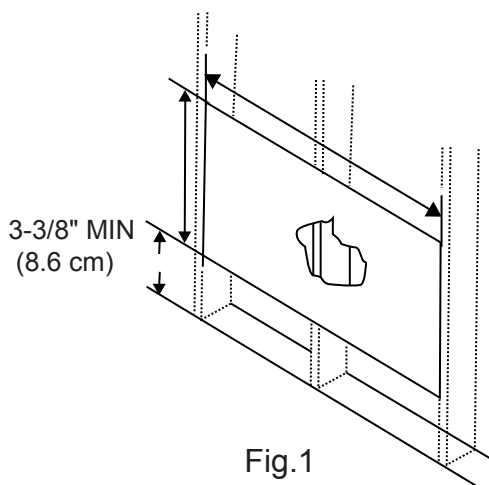
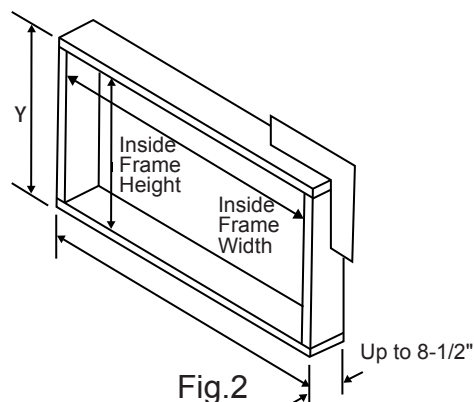

Fig.1
Fig.2
3. Measure between inside edges of every other stud as shown in Fig.1.
Carefully measure and cut an opening with the following dimensions depending on your model. See Fig.1 and Fig.2.